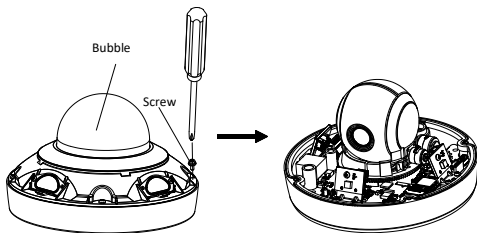

Figure 2-2 Remove the Bubble
2. Unscrew the screws on the camera base with the cross screwdriver, and remove the bubble, as shown in Figure 2-2.